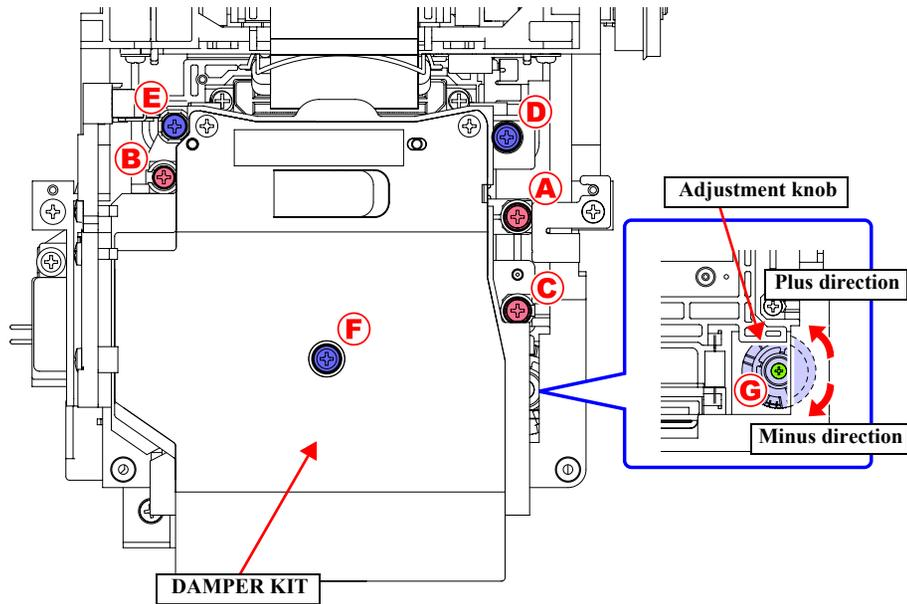

Figure 4-47. Correcting the Head Inclination
7. Turn the adjustment knob to correct the head inclination. See Figure 4-47 for which direction to move the knob.